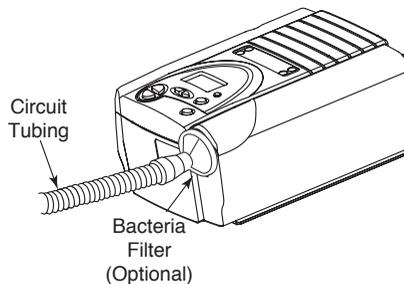

Figure 5–3 Connecting the Tubing to the Outlet
- A. If you are using a mask with a built-in exhalation port, connect the mask's connector to the circuit tubing, as shown in Figure 5–4.